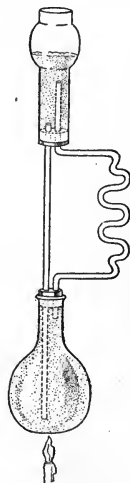

FIG. 80.
**Experiment to Show how the Water Gets Hot in a Kitchen Boiler.**—Construct apparatus as shown in the diagram, Fig. 80. Fill